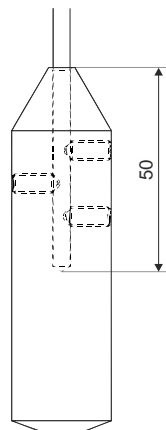

Fig. 19: Picture of the rope with the weight
1. At the rope electrode, it is necessary to loosen three fastening screws on the weight and to pull out the end of the rope, see fig. 19.